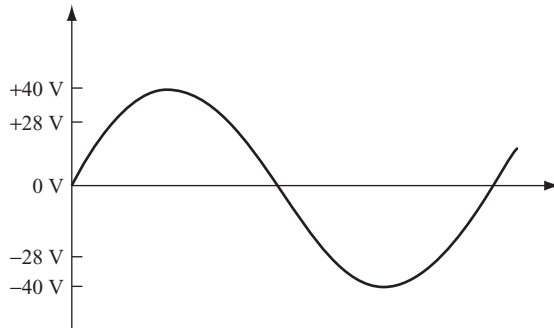

FIGURE 10.8
**10** Figure 10.8 shows an oscilloscope trace of the output waveform from the 28-volt secondary coil.